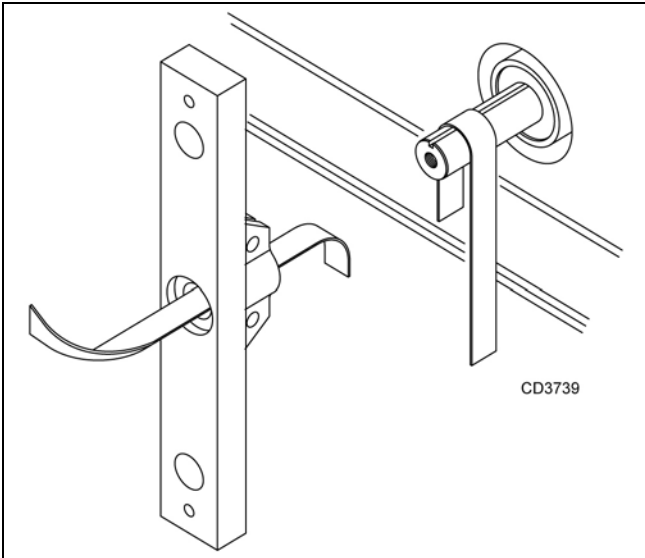

Figure 22
1. Using emery cloth (220 or finer), remove surface rust, Loctite® and foreign material from hub, splined gearbox, vertical shaft, and crossbar as shown in Figure 22.